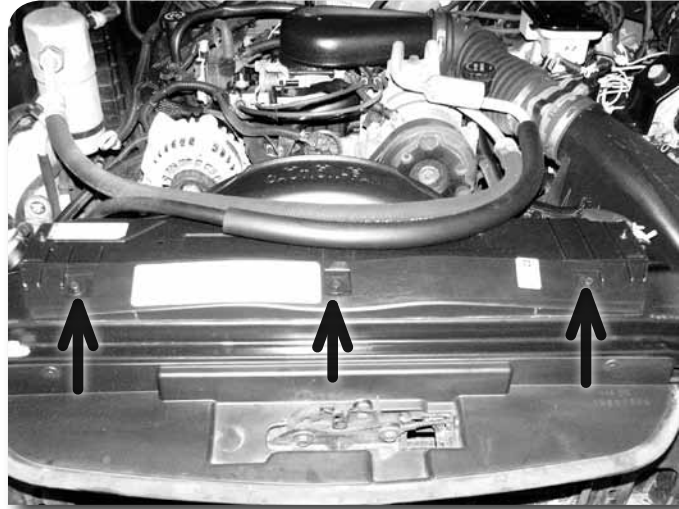

Figure 9
11. If equipped, remove the AC line from the plastic hose clip on the upper fan shroud Figure 9.
14. Remove the seven bolts mounting the upper fan shroud to the core support and lower fan shroud Figure 9, 10. Remove the upper fan shroud from the vehicle.